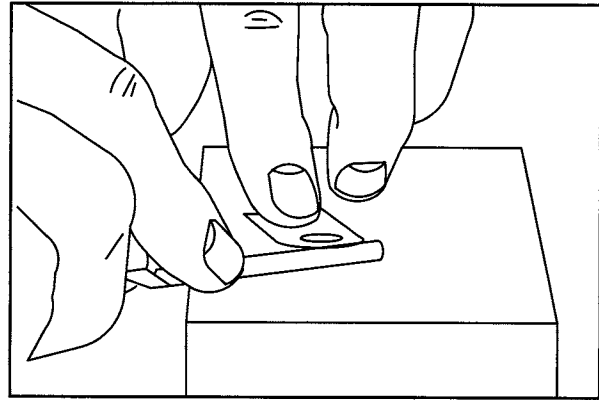

**Fig. 11**
3. Check reed valve for distortion with feeler gauge, **Fig. 11**.